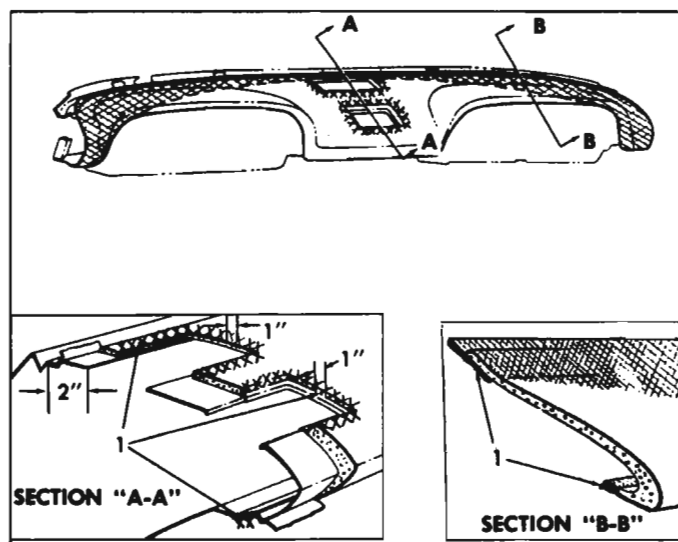

Fig. 11-45—Instrument Panel Cover
3. Carefully detach cemented areas of cover assembly shown in Figure 11-45 from instrument panel and remove cover.
2. Apply a thin coat of an approved neoprene-type weatherstrip adhesive to cementing surfaces of instrument panel cover, corresponding to areas indicated by "1" in Figure 11-45.
3. Apply a heavy coat of an approved neoprene-type weatherstrip adhesive to corresponding surfaces of instrument panel (See Figure 11-45).